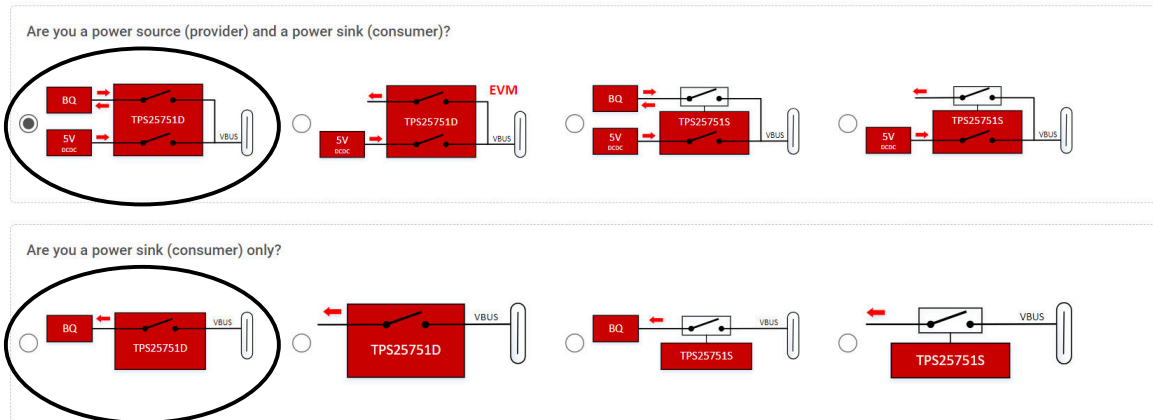

Figure 4-7. TPS25751D + BQ Configurations
1. Open the Application Customization Tool and select one of the following TPS25751D + BQ configurations in Figure 4-7: